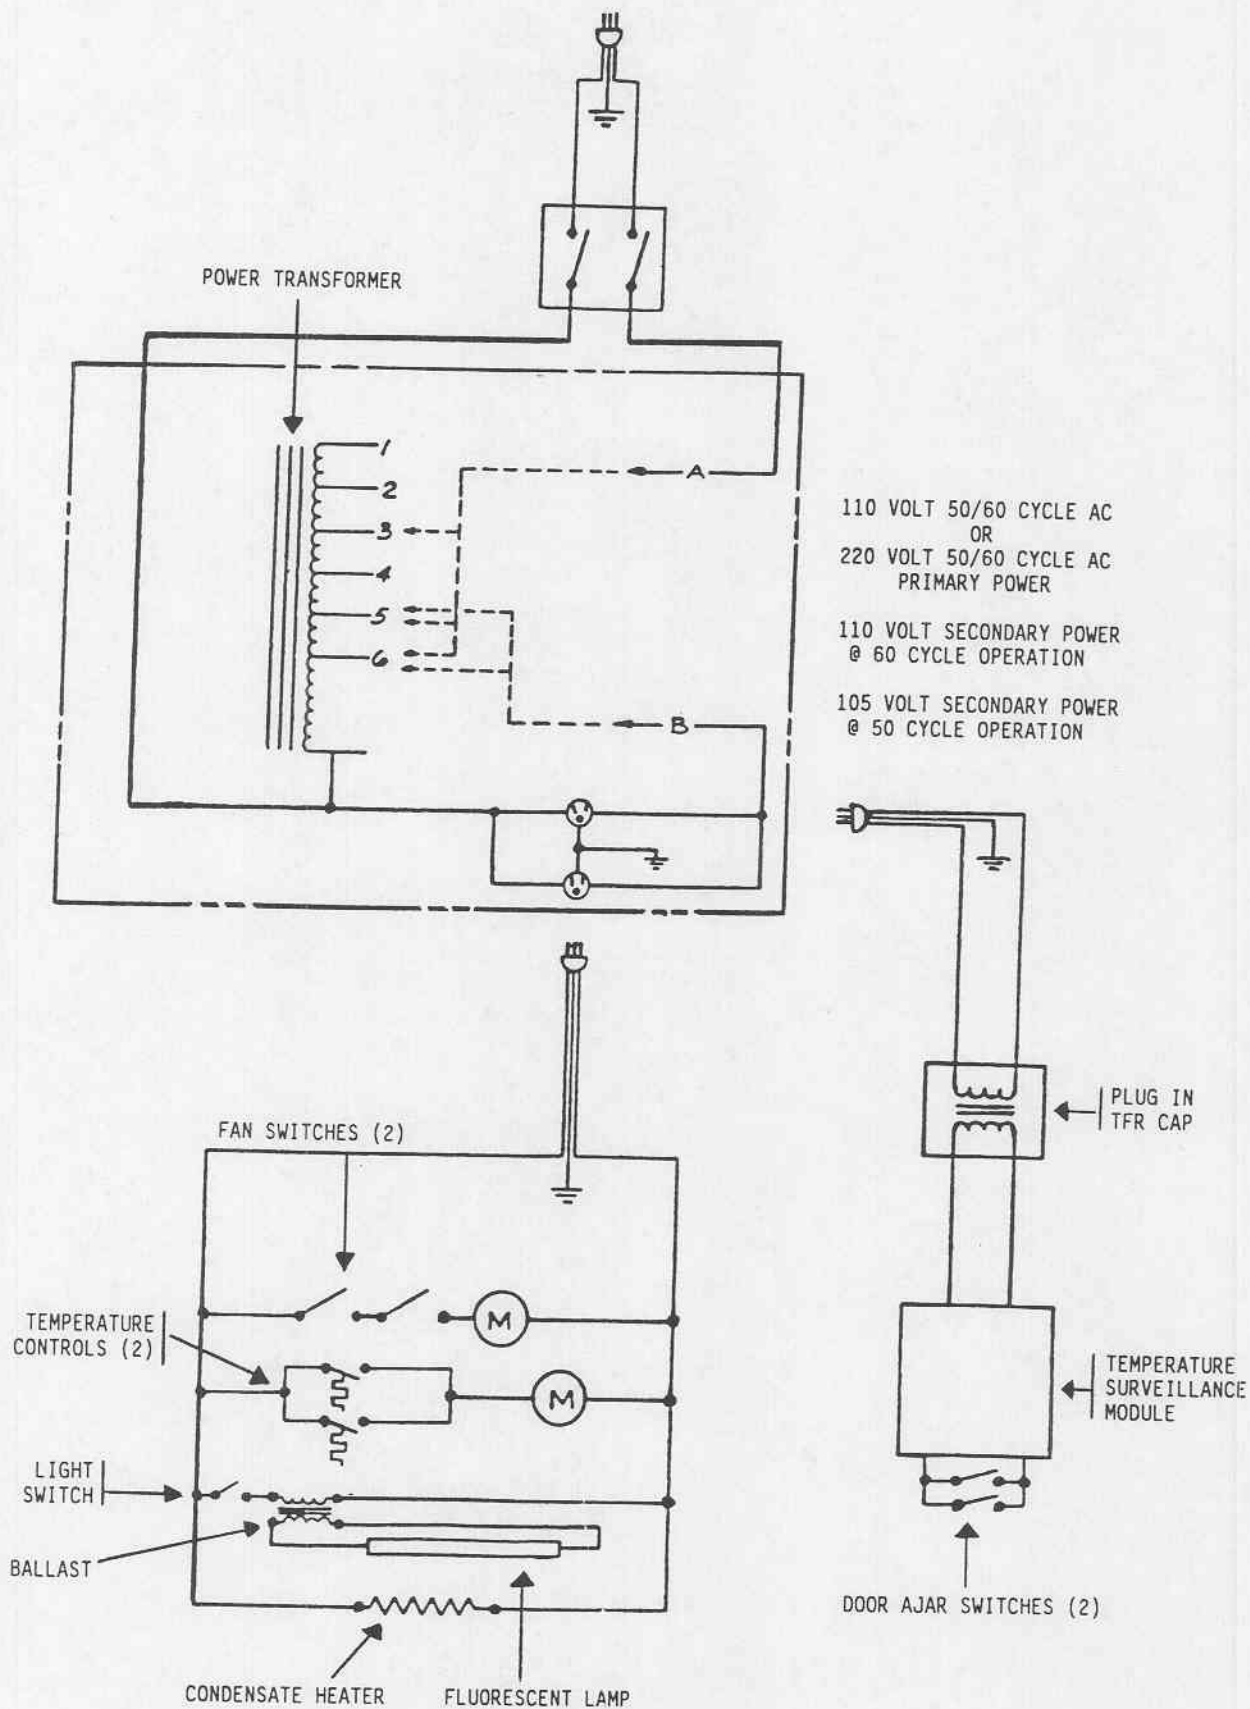

Figure 3-1. Electrical schematic.
c. Perform electrical fault location/troubleshooting using the electrical schematic provided in figure 3-1.